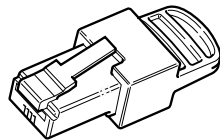

Figure 2-13 Network Terminator
- Network terminators (Figure 2-13)—the Xanbus network must be properly terminated at each end to ensure the communication signal quality on the network. Network terminators plug into network ports on Xanbus-enabled devices. The solar charge controller and other Xanbus-enabled devices ship with one terminator. Depending on your network layout, this terminator may need to be inserted into another device elsewhere in the network.